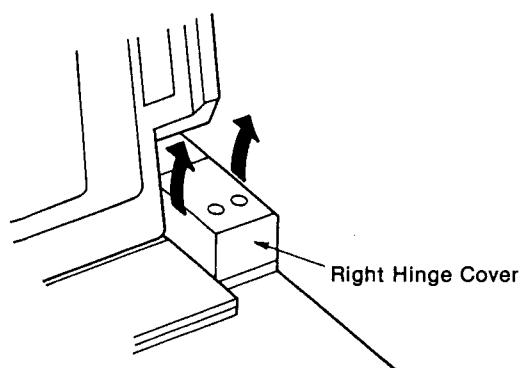

Figure 8
- (12) Remove the right hinge cover by lifting up the rear end of the cover as shown in Figure 8.